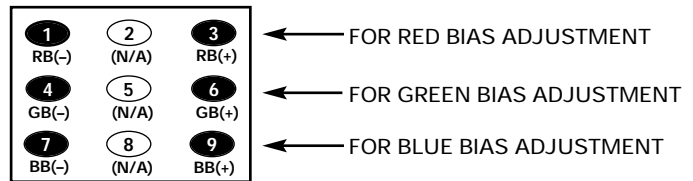

Figure 4. Remote Control Number keys' functions in Service Menu NO. 90
10. Raise each Bias Level with 3, 6, and 9 keys to obtain just visible white line. (See Figure 4.)